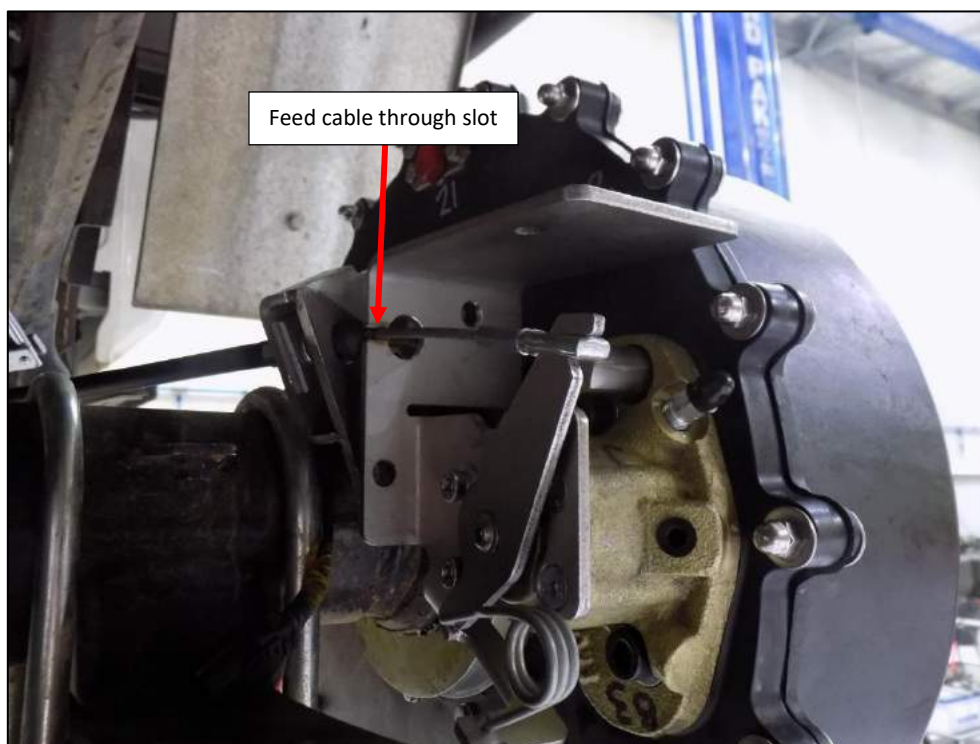

Figure 31
19. Feed the cable through the slot in the bracket (Figure 31).